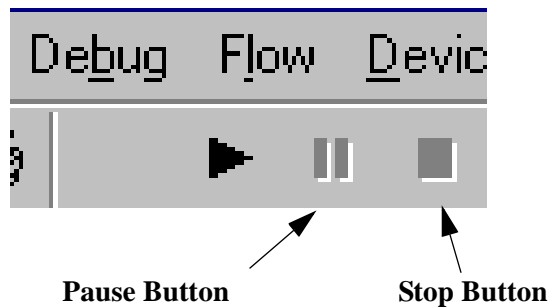

Figure 2-26. Pause or Stop a Program
5. To pause or stop the program, click the **Pause** or **Stop** buttons on the tool bar, shown in Figure 2-26. (Also located in the Debug menu.)